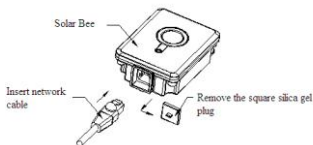

Fig 2-1 Insert network cable
- 1) Please remove the square silica gel plug, and then insert network cable, as shown in Fig2-1